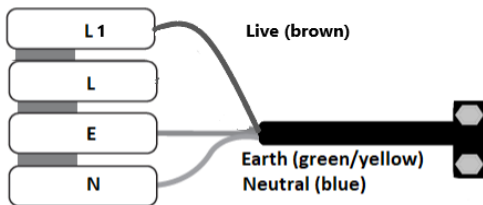
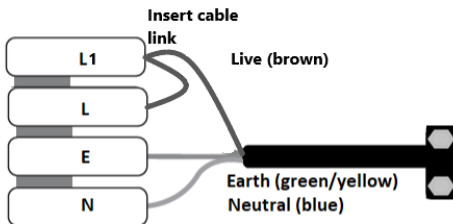

Fig. 1
Fig. 2
- Ensuring correct polarity is observed, carefully wire as shown (Fig. 1) for non-maintained operation, maintained operation (Fig. 2) or switched-maintained operation (Fig. 3)